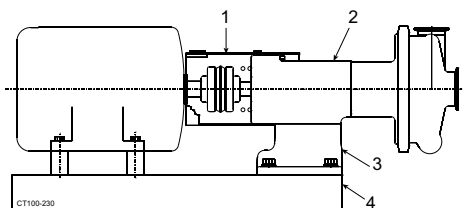

Figure 1 - Style C
The style C arrangement includes the bearing housing (2), coupling, coupling guard (1), pedestal stand (3), and base (4), for use with T-frame motors with feet. The pump and motor are mounted and supported independently. (Figure 1).